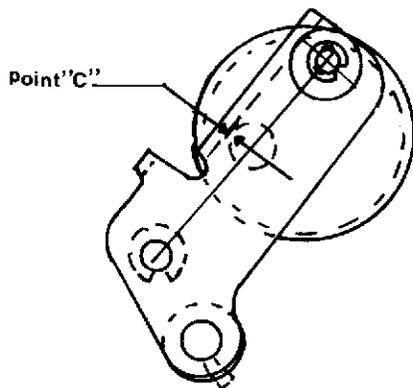

Figure 3-45. AUTO LOOP RESET ADJUSTMENT
15. Auto Loop Reset Adjustment (Fig.3-45)